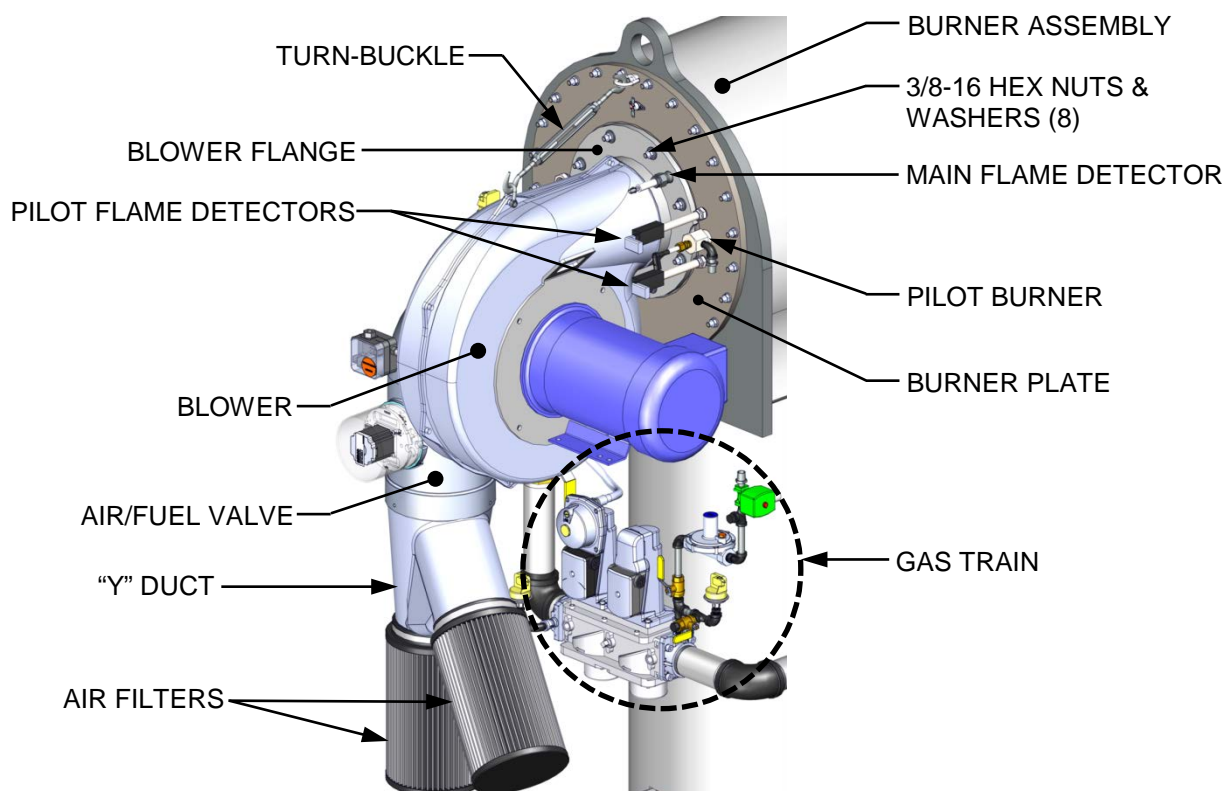

Figure 7-4a: Burner Assembly Mounting Details
5. Remove the Pilot sensors and observation ports from the Burner Plate (Figure 7-4a).